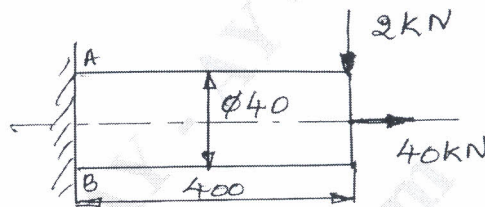

Fig.Q1(c)
c. Determine the stress induced for the loaded member shown in Fig.Q1(c) at points A and B.